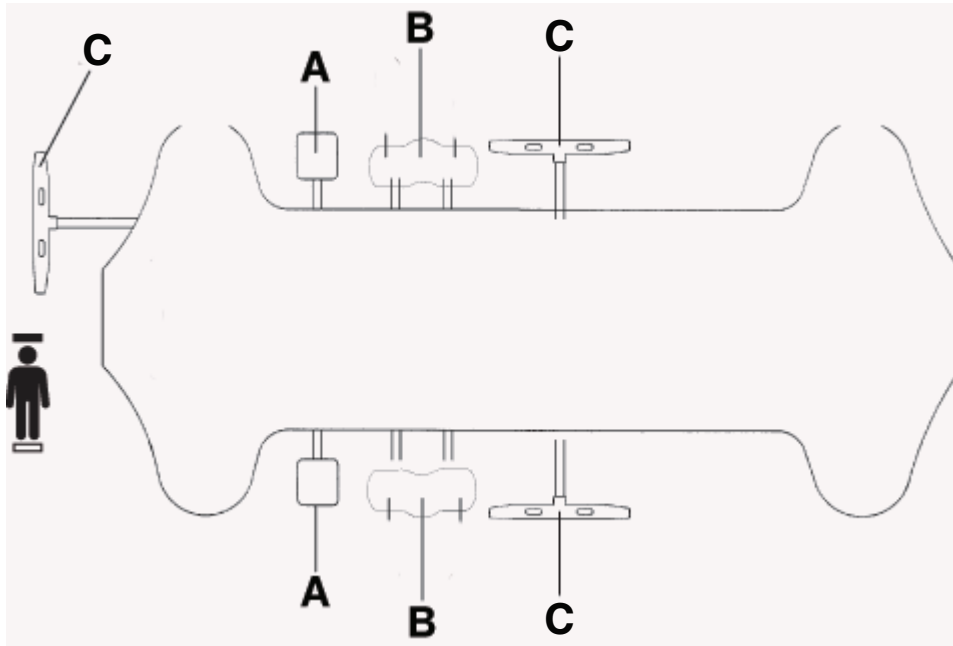

Figure 2: Raising or lowering the litter
To raise the litter, press down on the pump pedal (A) until you achieve the desired height (Figure 2 on page 12).
To lower the head end of the product, push down on the side of the uni-lower pedal (B) closest to the head end (Figure 2 on page 12).
To lower the foot end of the product, push down on the side of the uni-lower pedal (B) closest to the foot end (Figure 2 on page 12).